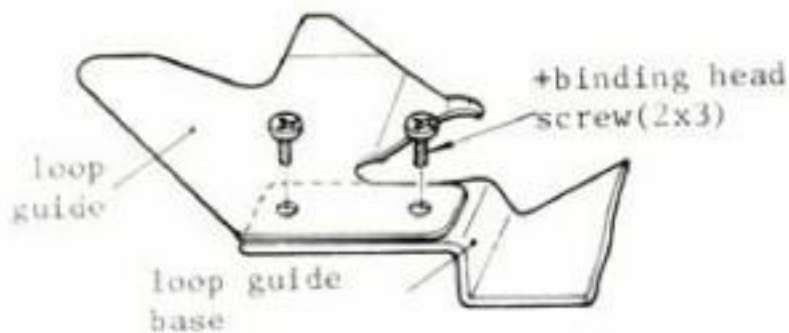

Fig. 171
- 5) Place the Carriage at the end of the Needle Bed and remove two + binding head screws (2x3) to take off the loop guide (Fig. 171).